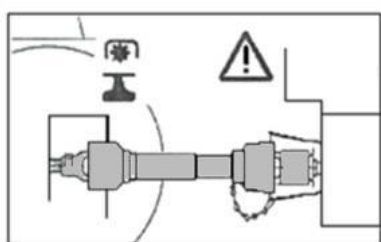

Figure 3: Connection of the PTO drive shaft
- If using a free-wheel PTO drive shaft, connect it to the machine's side (Figure 3)